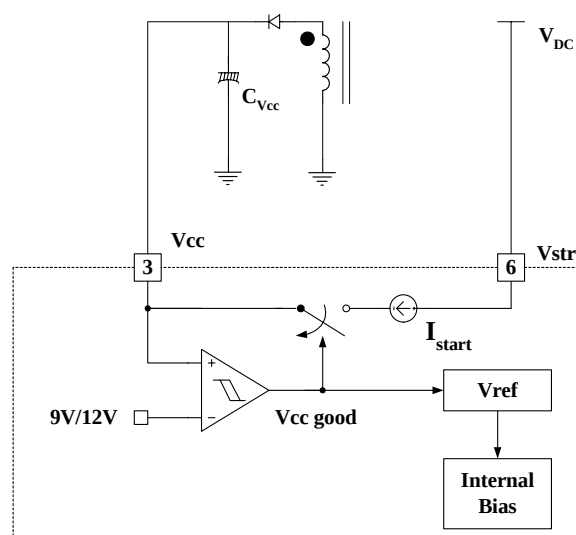

Figure 4. Internal Startup Circuit
1. Startup : In previous generations of Fairchild Power Switches (FPS™) the Vcc pin had an external start-up resistor to the DC input voltage line. In this generation the startup resistor is replaced by an internal high voltage current source. At startup, an internal high voltage current source supplies the internal bias and charges the external capacitor (C_{VCC}) that is connected to the Vcc pin as illustrated in figure 4. When Vcc reaches 12V, the FPS begins switching and the internal high voltage current source is disabled. Then, the FPS continues its normal switching operation and the power is supplied from the auxiliary transformer winding unless Vcc goes below the stop voltage of 9V.